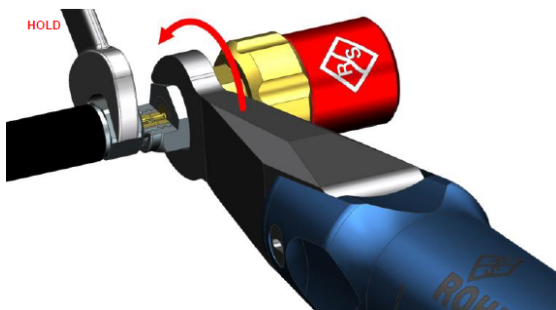

Figure 11. Tightening using a specialized torque wrench [1]
3. after we finish tightening the connector by hand, we need to come up with a torque wrench to complete the complete tightening to the required torque (see Fig. 11).